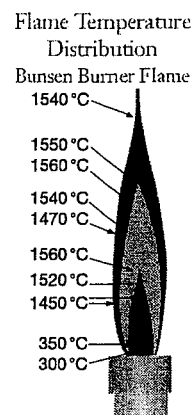

Figure 3.
- Adjust the air supply by turning the metal collar to get a tight, bright blue, cone-shaped flame. This is a very hot flame (see Figure 3 for a temperature profile of various parts of a flame).
Increasing the air flow to the burner produces more complete combustion and a hotter flame. The air is increased by opening up the air vent (turning the metal collar). The air is drawn into the barrel of the burner by the gas coming out of the gas jet. The gas-air mixture is then ignited above the barrel. The result is a noisy, bluish-colored, three-cone flame. This blue flame provides the highest possible temperature from the burner. The temperature varies greatly across the three major regions of the flame, as shown in Figure 3. The hottest part of the flame is just above the inner blue cone (see Figure 3).